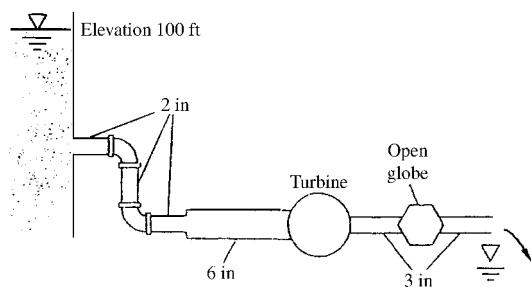

Fig. P6.109
**6.109** In Fig. P6.109 there are 125 ft of 2-in pipe, 75 ft of 6-in pipe, and 150 ft of 3-in pipe, all cast iron. There are three 90° elbows and an open globe valve, all flanged. If the exit elevation is zero, what horsepower is extracted by the turbine when the flow rate is 0.16 ft3/s of water at 20°C?